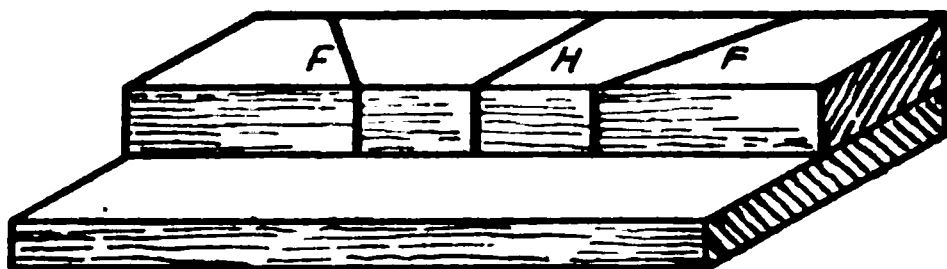

Fig. 7.—A mitre cut.
*Mitre Joints.*—The true mitre joint is made at an angle of  $45^{\circ}$ , as in picture-frames. In the first place, the mitre is sawn in a "mitre cut" (Fig. 7), and the "return" or corresponding mitre should follow the preceding one, as 1, 1, and 2, 2, in Fig. 8, *a*, to ensure a correct intersection.